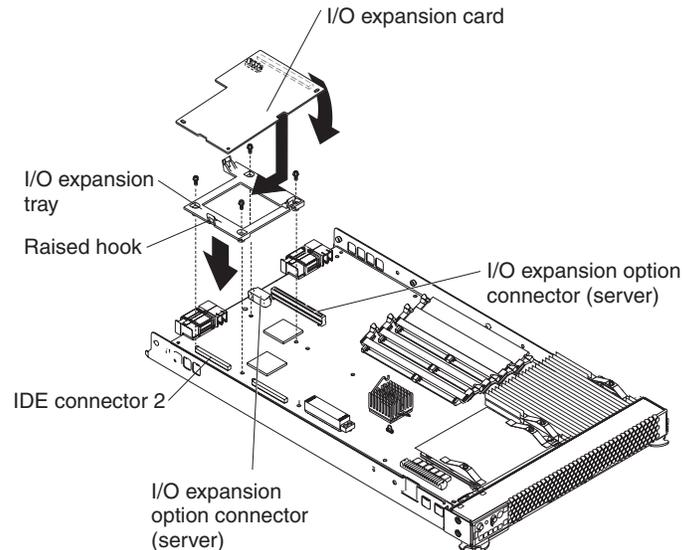

Figure 24. Installing an I/O expansion card
Figure 24 shows how to install an I/O expansion card on the blade server. The card is installed near IDE connector 2.
5. If an IDE hard disk drive is in IDE connector 2, remove the drive and tray (save the screws that secured the tray to the system board); otherwise, remove the two existing screws near IDE connector 2 that secure the system board to the chassis, as shown in Figure 24.
- a. Install the I/O expansion card tray. Secure the tray to the system board with the screws from the option kit, as shown in Figure 24.
- b. Orient the I/O expansion card as shown in Figure 24.